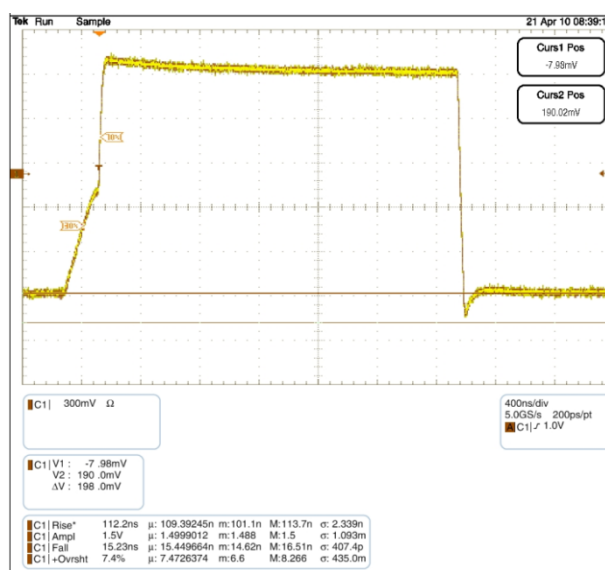

Figure 5. FXMA2102 Waveform C: 600 pF, RPU: 2.2 K
Due to I2C’s open-drain topology, I2C masters and slaves are not push/pull drivers. Logic LOWs are “pulled down” ( $I_{sink}$ ), while logic HIGHs are “let go” (3–state). For example, when the master lets go of SCL (SCL always comes from the master), the rise time of SCL is largely determined by the RC time constant, where  $R = R_{PU}$  and  $C =$  the bus capacitance. If the FXMA2102 is attached to the master [on the A port] in this example, and there is a slave on the B port, the Npassgates act as a low resistive short between both ports until either of the port’s  $V_{CC}/2$  thresholds are reached. After the RC time constant has reached the  $V_{CC}/2$  threshold of either port, the port’s edge detector triggers both dynamic drivers to drive their respective ports in the LOW-to-HIGH (LH) direction, accelerating the rising edge. The resulting rise time resembles the scope shot in Figure 5. Effectively, two
The FXMA2102 dynamic drivers have enough current sourcing capability to drive a 400 pF capacitive bus. This is beneficial for instances when an I2C buffer / repeater is required. The I2C specification stipulates a maximum bus capacitance of 400 pF. If an I2C segment exceeds 400 pF, an I2C buffer / repeater is required to split the segment into two segments, each of which is less than 400 pF. Figure 5 is a scope shot of an FXMA2102 driving a lumped load of 600 pF. Notice the (30% – 70%) rise time is only 112 ns ( $R_{PU} = 2.2$  K). This is well below the maximum edge rate of 300 ns. Not only does the FXMA2102 drive 400 pF, but it also provides excellent headroom below the I2C specification maximum edge rate of 300 ns.